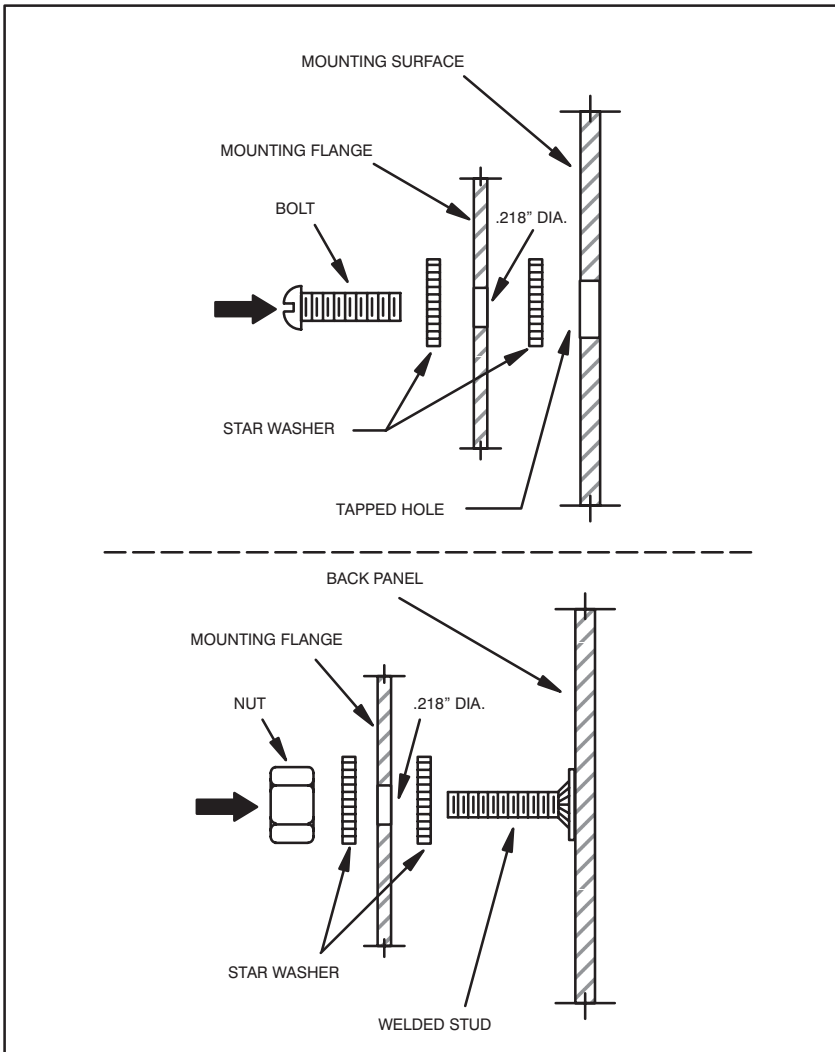

Figure 3.18 - Mounting Examples
- Step 2. Mount the Remote I/O Head on the panel and attach it securely with #10 (M5) bolts or studs. Examples of attaching the Remote I/O Head to the mounting surface are shown in figure 3.18.
- Step 2. Mount the Remote Drive Interface Head on the panel and attach it securely with #10 (M5) bolts or studs. Examples of attaching the Remote Drive Interface Head to the mounting surface are shown in figure 3.18.